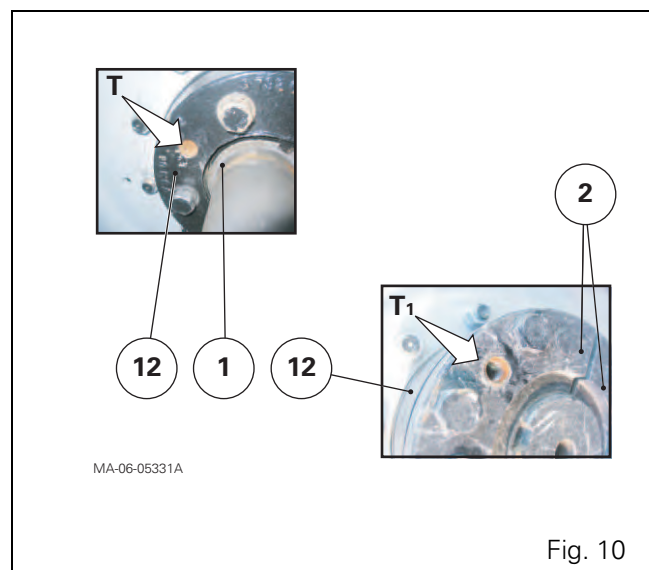

Fig. 10
17. Remove the plastic protectors plugging the tapped holes in the hub (12) or the cast iron wheel disc (depending on version).
18. For versions with a 95 mm diameter straight axle shaft, clean the thread of each extraction screw (5) in the hub (12) by screwing and unscrewing a tap in each thread located at the base of holes T in the hub (12) (Fig. 10) in order to extract any dirt.
19. For versions with a 110 mm diameter straight axle shaft, clean the thread of each extraction screw (5) in the half-cones (2) by screwing and unscrewing a tap in each threaded hole T1 of the half-cones (2) (Fig. 10) in order to extract any dirt.